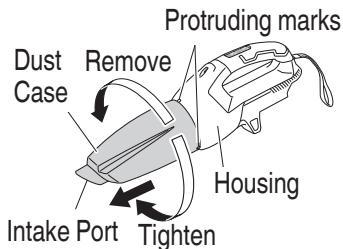

Fig. 6
- (1) Remove the dust case (**Fig. 6**)